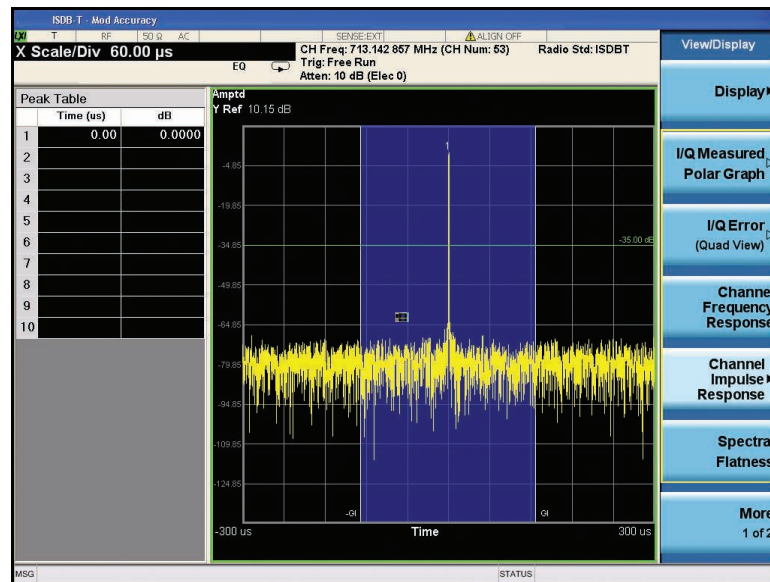

Figure 14. Modulation accuracy measurement with channel impulse response view
View the channel impulse response and turn on the equalizer (Figure 14)	[View/Display] {Channel Impulse Response} [Meas Setup] {Advanced} {Equalization} On
- **Channel impulse response view** (Figure 14): This two-window view displays the state of the channel in time domain which the signal has gone through.